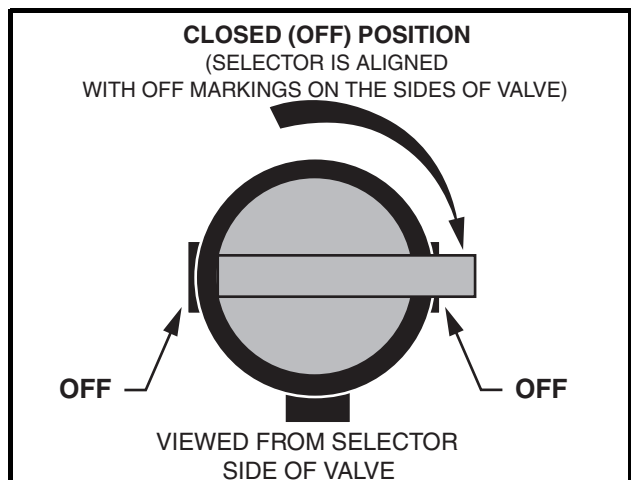

Figure 3-5 Fuel Valve – Closed
6. Turn the fuel shut-off valve to the closed (OFF) position (**Figure 3-5, Page 3-3**) and run the engine until it stalls. **See DANGER “Do not operate gasoline vehicle...” in General Warning, Section 1, Page 1-1.**